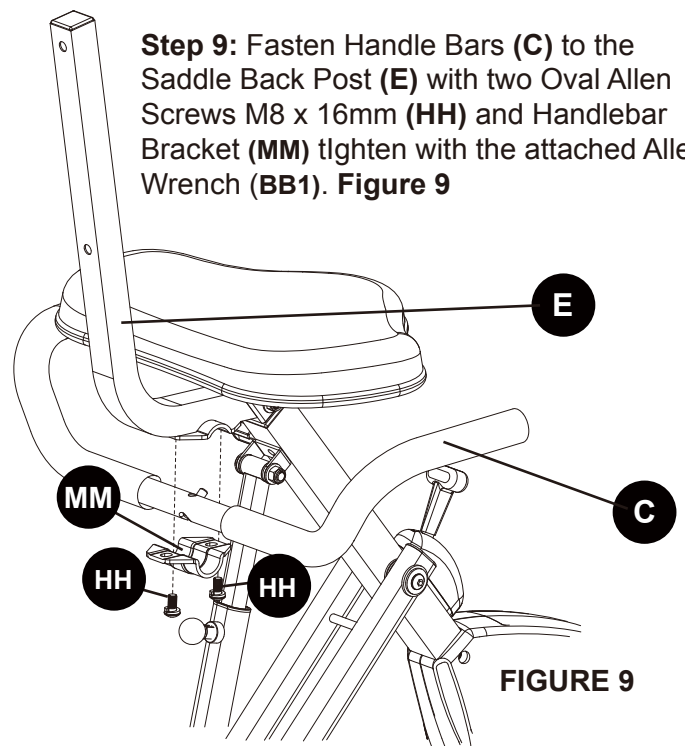

FIGURE 9
Step 9: Fasten Handle Bars (C) to the Saddle Back Post (E) with two Oval Allen Screws M8 x 16mm (HH) and Handlebar Bracket (MM) tighten with the attached Allen Wrench (BB1). **Figure 9**